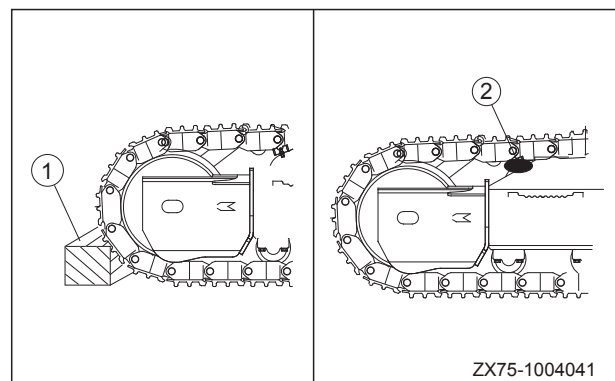

Fig. 6-41
1. Disconnect the drain hose (3) of the travel motor and plug the hose end.
3. Place block ① (Fig.6-41) under the grouser of track shoe. Place block ② between carrier roller and the track frame in order to lock the track shoe.